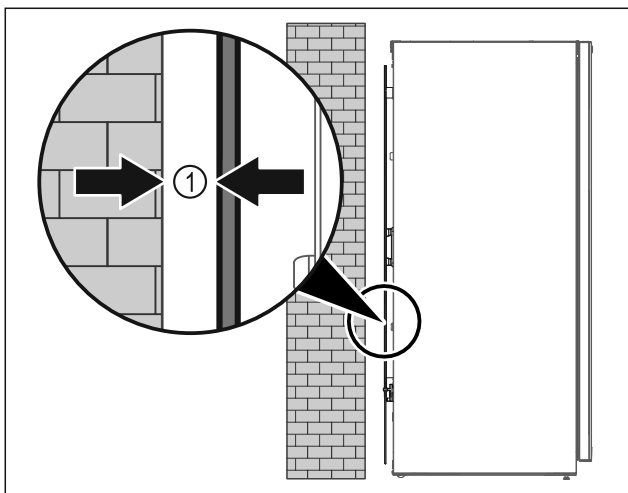

Fig. 27
- ▶ Set up the appliance either free-standing or directly against a wall at a minimum distance of 5 mm Fig. 27 (1).